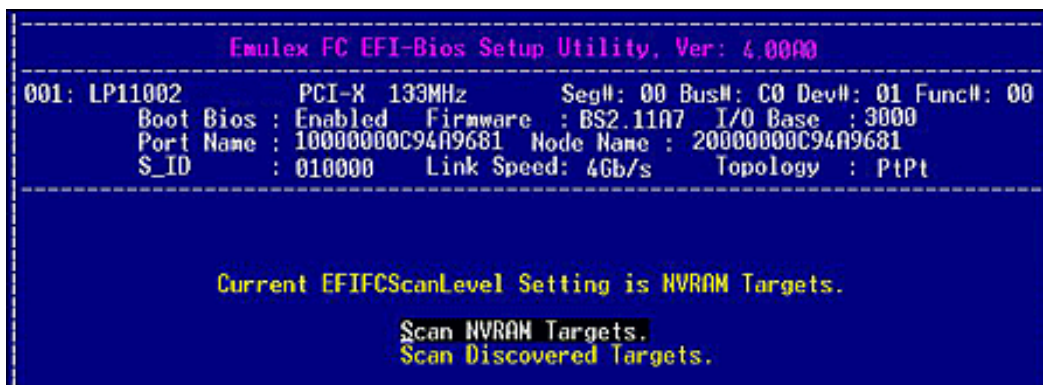

Figure 6-18 Existing EFIFCScanLevel Variable Screen
- If the EFIFCScanLevel variable already exists, the screen in Figure 6-18 shows the current setting and allows you to select a new setting.